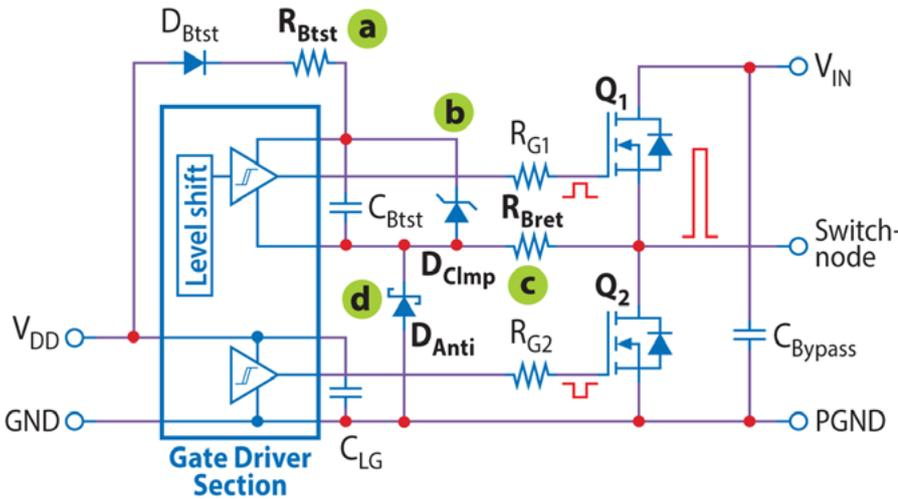
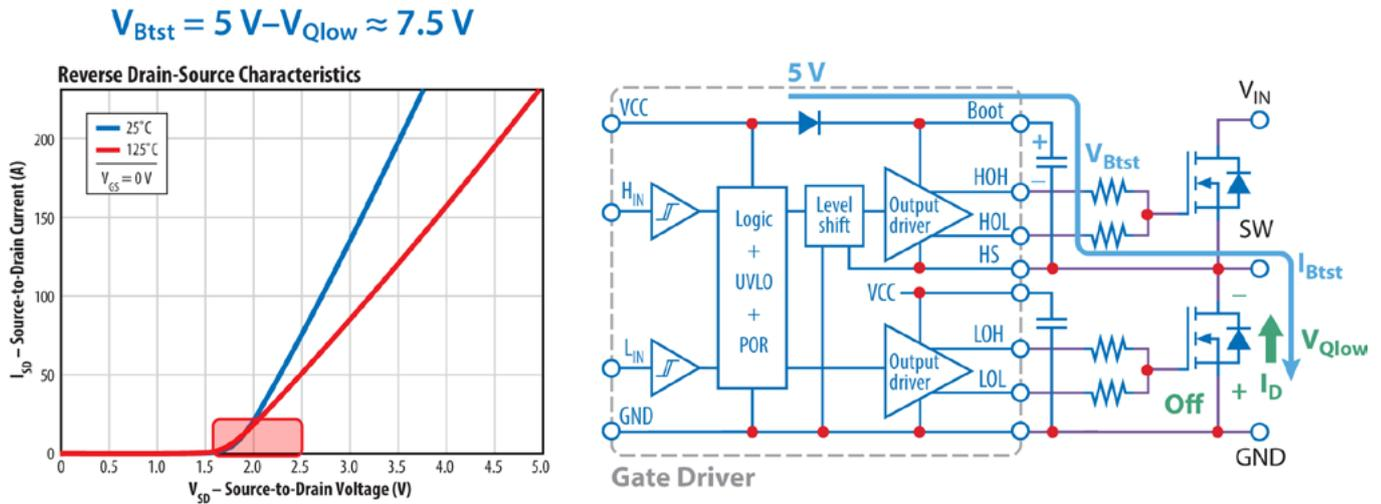

Figure 1: Recommended Si Gate driver augmentation for GaN FET compatibility.
Figure 2: Bootstrap charging path during dead time.
Once a compatible MOSFET driver has been identified, then the following steps can be implemented to ensure highest compatibility with GaN FETs. Refer to figure 1 for details with the accompanying explanations. *General GaN FET driving recommendations [1] should always be followed in addition to these recommendations.*
1. **Bootstrap Diode:** For an external bootstrap diode, use the smallest possible size, capacitance, and current rating Schottky diode, such as a BAT54KFILM [2], and connect it in series with a current limiting resistor as shown in Figure 1 (a). The Schottky diode ensures the lowest loss in voltage ( $V_{boot} - V_{sw}$ ) thus maintaining the driver voltage as close to 5 V as possible. The small series resistor limits the current in the bootstrap diode when any of the protection circuits kick in. It should be noted that this resistor may have an impact in the minimum pulse width required to recharge the bootstrap capacitor. Drivers with an integrated 5 V LDO after the bootstrap diode do not require the series resistor or additional circuit protections subsequently presented as those recommendations become optional.
voltage during dead-times with the low-side device in reverse conduction. A good example would be MM5Z5V6ST1G [3] with a Zener voltage of 5.6 V as shown in Figure 1 (b). Both the bootstrap capacitor and Zener diode should be placed as close as possible to each other, and as close as possible to the gate driver.
3. **Gate Return Resistor:** Adding a gate return resistor, as shown in Figure 1 (c), for the high side FET can protect the IC from a large negative voltage on the switch node during reverse conduction of the low side GaN FET as shown in Figure 2. The value of this resistor also depends on the turn-off damping and timing needed for the upper device gate circuit. Using this resistor requires an equivalent reduction in the turn-on resistor for the gate to compensate for its resistance.
4. **Reverse Conduction Clamp:** An anti-parallel Schottky diode across the low side of a half-bridge topology, as shown in Figure 1 (d), can limit the magnitude of negative switch node voltage the driver is exposed to. Some gate drivers become sensitive to or may even fail when the switch-node falls below certain voltages below the ground reference [4]. The voltage rating of this diode should match that of the low side GaN FET. The current rating can be significantly lower than that of the low side FET because it only conducts during dead times, so it should be selected based on its pulsed current rating.